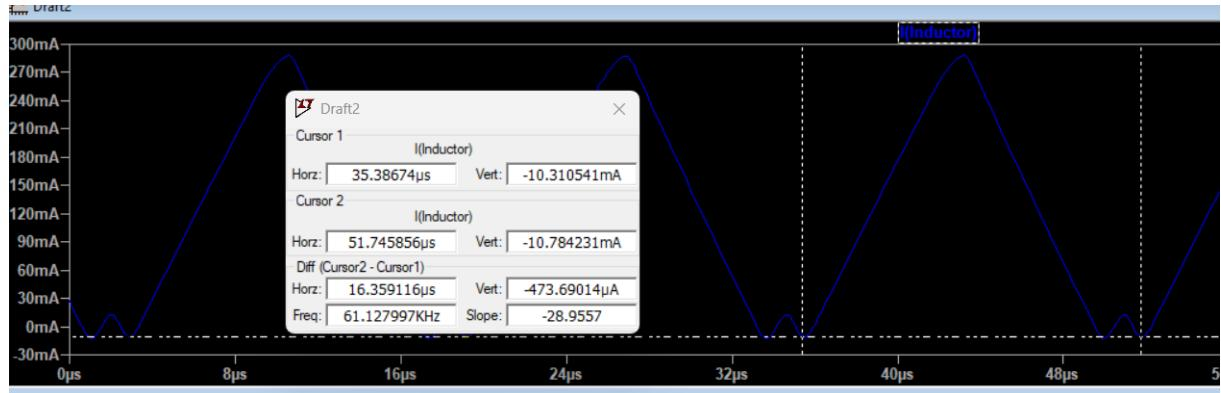
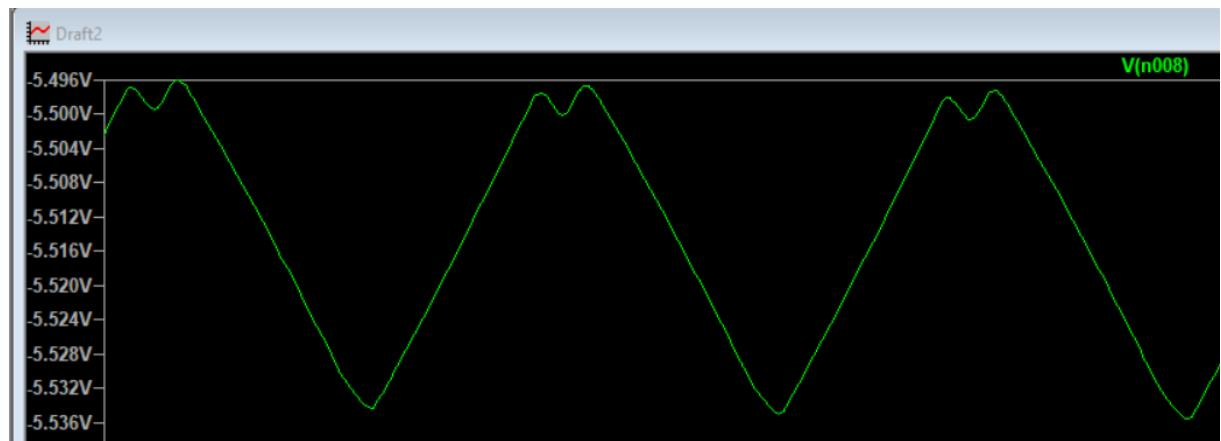

Fig. 16: New T_s value with $R_L=47$
Fig. 17: Output voltage with $R_L=47\Omega$
- I) In order to get the previous voltage at the output which is 5.5V, some adjustments need to be done. Currently, with $R_L=47\Omega$, $V_o=7.1V$. To reduce this value to 5.5V, I swapped the R_A and R_B values. As a result, both T_s and duty cycle values are changed. New T_s value is $16.36\mu s$ (Fig. 16) and duty cycle value measured $D=0.462$ ($t_{ON}=7.54\mu s$) (Fig. 17). The value found at f) for duty cycle is 0.388, and here is 0.462. It is seen that due to voltage drops across diode and resistors, duty cycle has increased. Output votlage can be observed from Fig. 17, which is measured as around -5.5V.